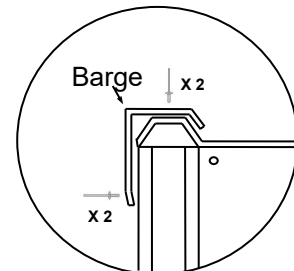

fig.4
- Rivet the Barge Flashings to the roof and the side wall, using two rivets on top of barge and two into the side (**fig.4**).